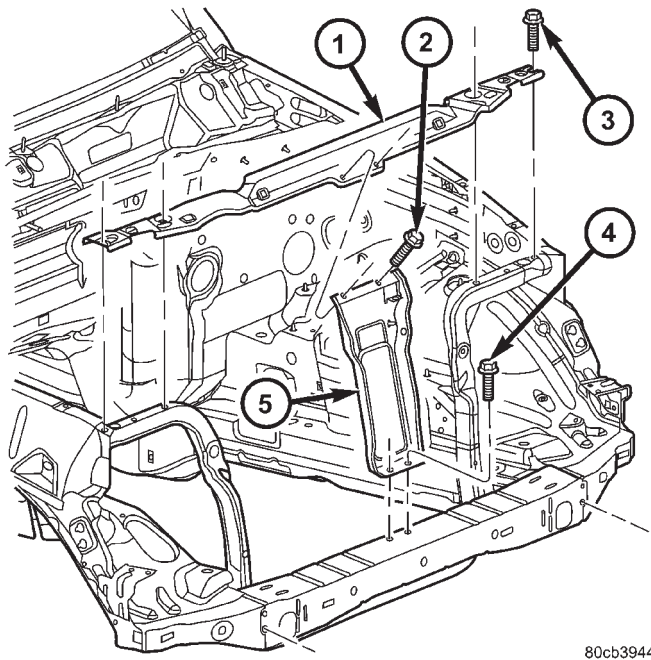

Fig. 1 RADIATOR CROSSMEMBER
- (1) Remove the grill. (Refer to 23 - BODY/EXTERIOR/GRILLE - REMOVAL)
- (2) Remove the latch support bracket bolts and position the latch assembly aside. (Fig. 1)
- (3) Remove the two latch nuts.
- (4) Disconnect the release cable.